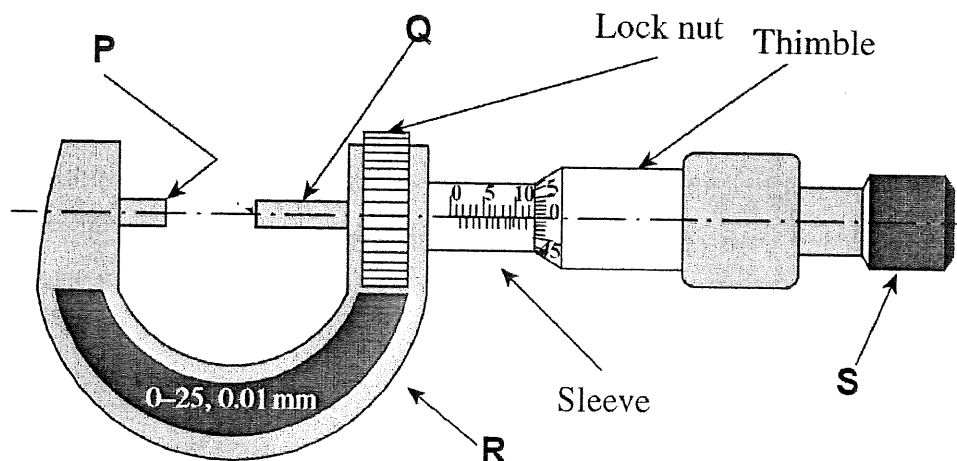

Figure 2: Outside Micrometer
- Give three (3) advantages of digital measuring instruments. (3 Marks)
- Figure 2 illustrates a schematic diagram of an outside micrometer. Predict the names of parts P, Q, R, and S accordingly. (4 Marks)